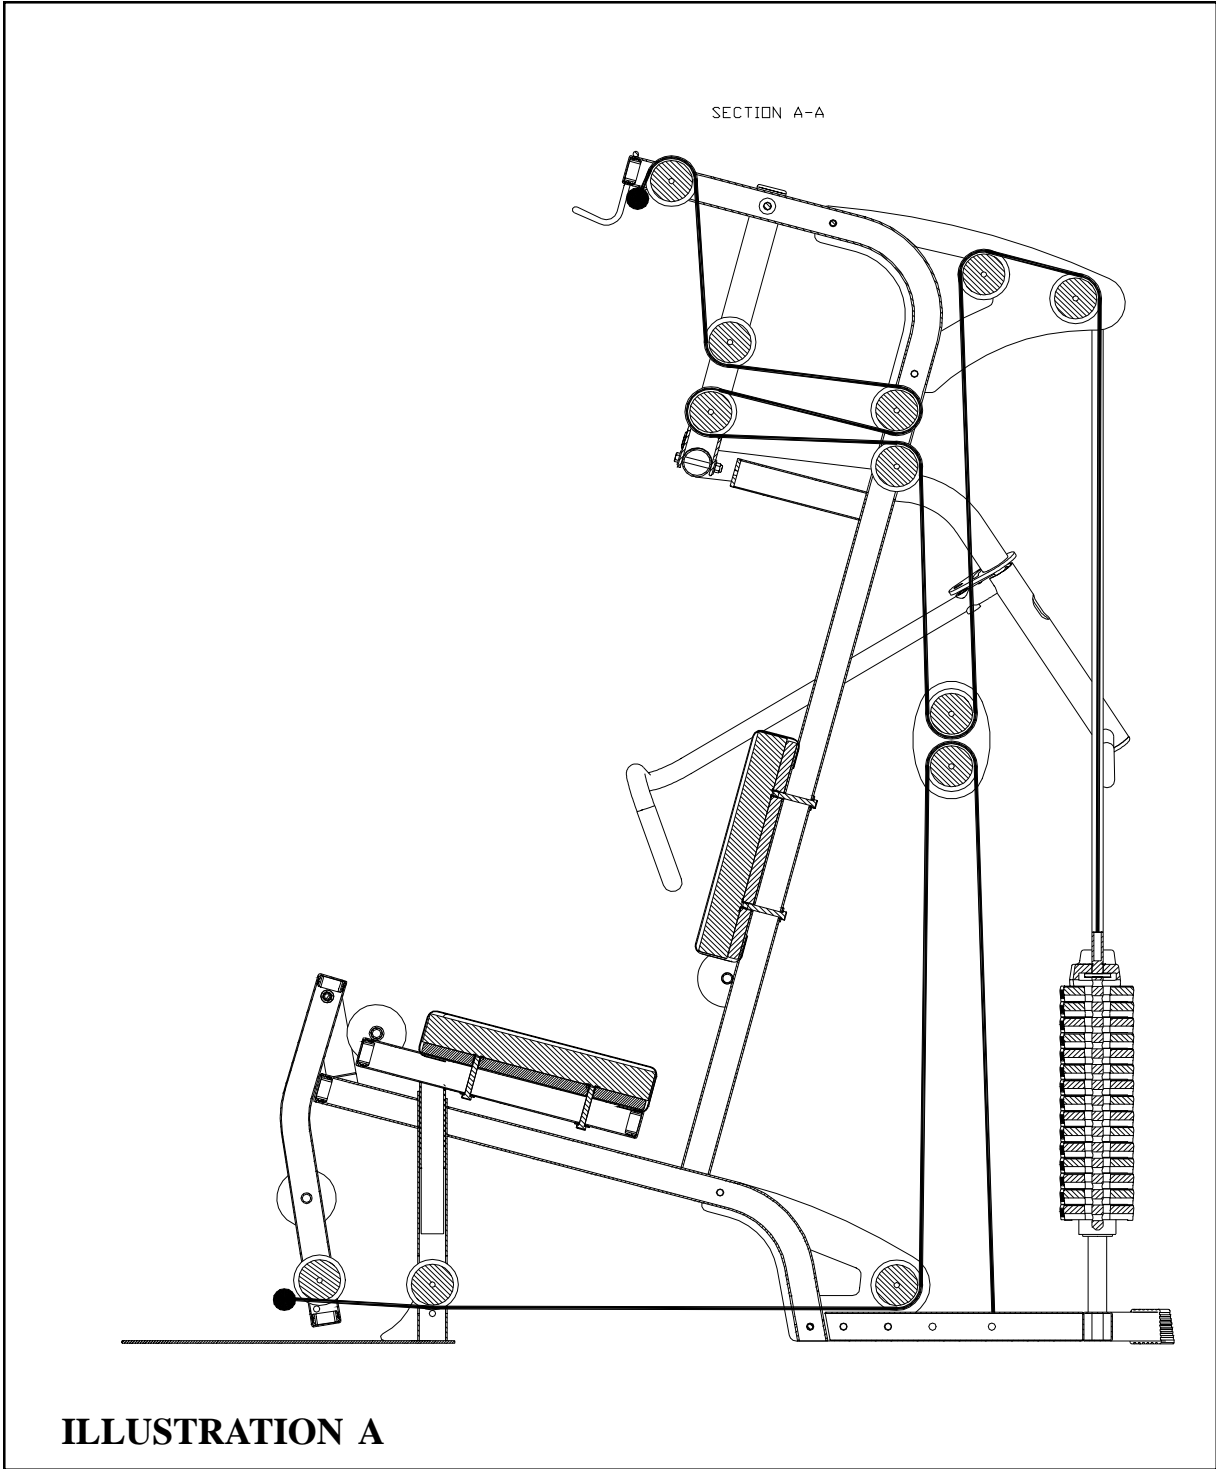

**FIGURE 12**
- Route LAT CABLE (20) and LOW CABLE (21) as shown in FIGURE 12